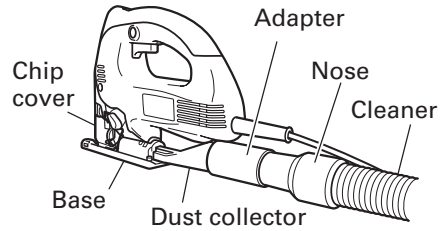

Fig. 20
- (4) Connect the dust collector with adapter. (Fig. 20)
- (5) Connect the adapter with the nose of cleaner. (Fig. 20)